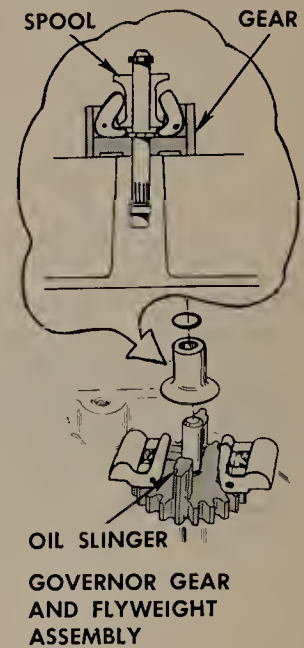

FIGURE 8.35 Details of the centrifugal governor using flyweights.
8.21 Centrifugal Governor. The centrifugal governor has a lever that is linked to the throttle through an arm and a rod. (See Fig. 8.34.) Figure 8.35 will give you a better idea of how the governor works. As engine speed increases, the two flyweights move out and push against the spool. This motion is carried to the arm so that the rod pulls down on the throttle lever and tends to close the throttle. To begin then, when the engine is started, the operator opens the throttle to get the engine speed he desires. Note that this puts a certain tension on the control spring and that the throttle is opened through the pull of the spring on the governor arm. This gives the engine the preset speed that the operator wants. Now, if the engine tends to speed up, the governor arm is turned, as shown to the right in Fig. 8.34. This tends to close the throttle to prevent overspeeding. On the other hand, if the engine tends to slow down due to heavy going, the flyweights move inward to allow the throttle to open wider. This allows the engine to produce more power. The engine thus maintains the speed at which the operator has set the throttle.